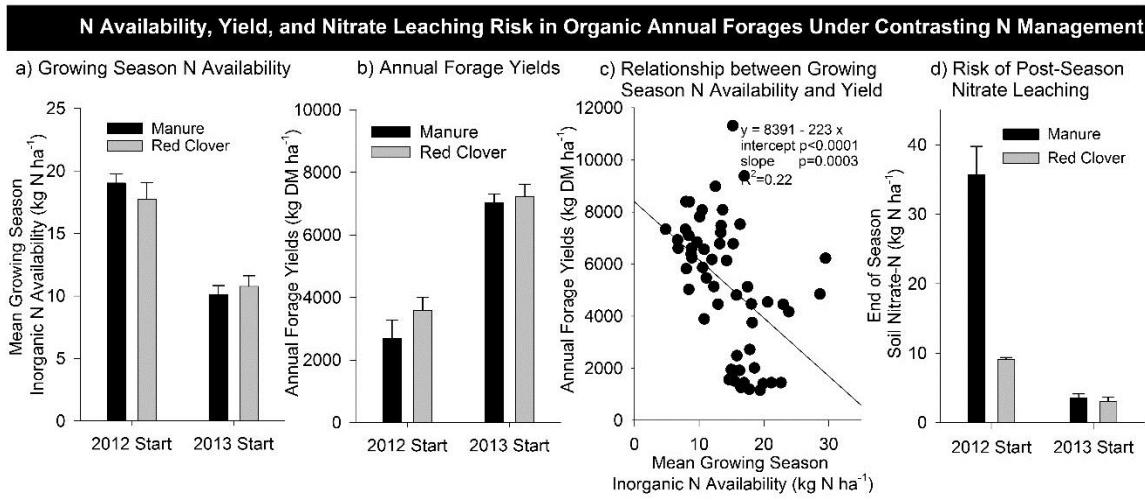
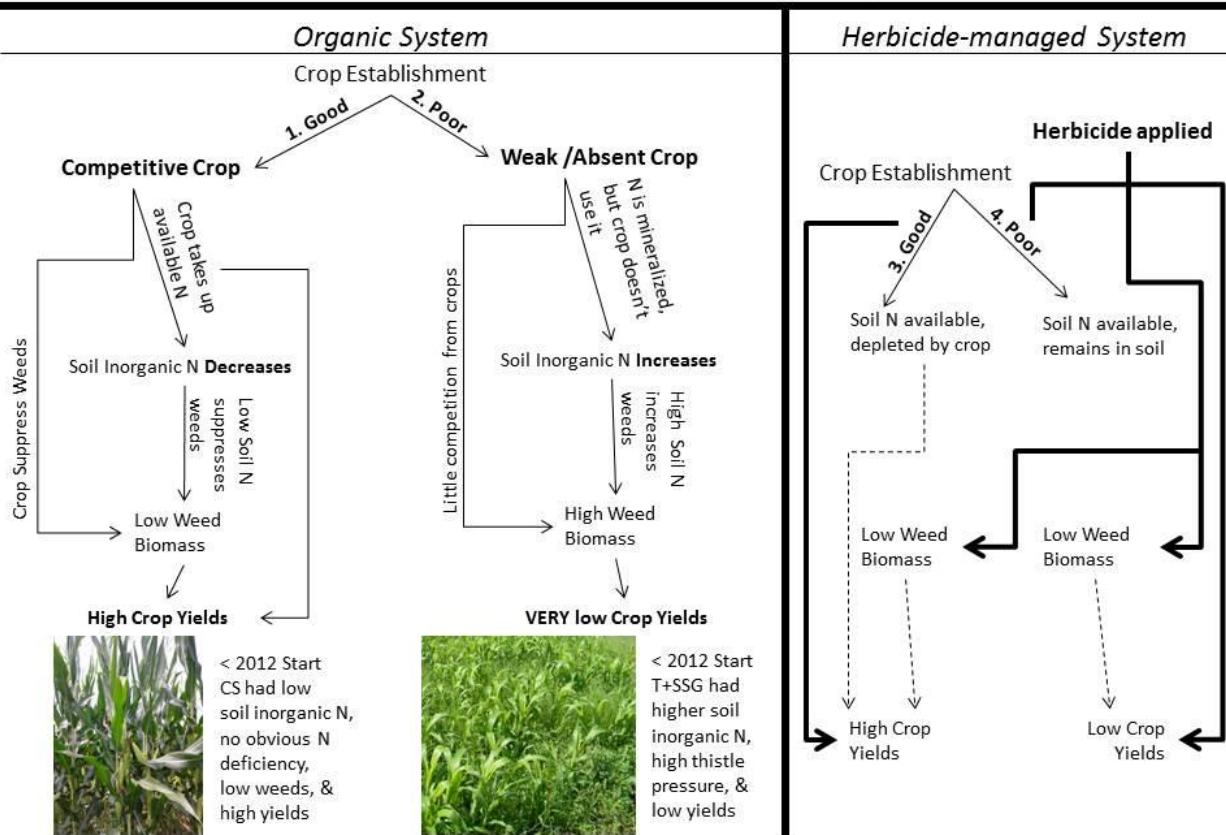

Figure 1. Forage Phase N Availability and Yields
Figure 2. Nitrogen availability-yield relationships are moderated by other factors in organic systems
Yield lags in organic systems are frequently attributed to low soil inorganic nitrogen (N) availability. Within a 2-year organic forage systems trial conducted on 2 sites that had been under long-term organic management, we compared two alternative N provisioning strategies, legume-based and manure based. We monitored crop yields and soil inorganic nitrogen availability throughout forage and silage phases of 3 manure-based annual systems and 4 red clover (RC, *Trifolium pratense* L.)-based annual systems. Annual systems consisted of annual forage followed by corn silage (CS, *Zea mays* L.), whereas a perennial forage system remained in orchardgrass (OG, *Dactylis glomerata* L.)-RC throughout the experiment, and served as a reference control. Annual forage yields were inversely correlated with soil inorganic N availability, and, from a groundwater quality perspective, manure-based N management resulted in concerning quantities of end-of-season soil nitrate (Figure 1). The relationship between early season nitrate availability and yields was also weaker than typically reported for conventionally managed systems and suggested lower levels might be more appropriate for both manure- and legume-based systems with a long history of organic management. Across both phases, these results imply low soil test inorganic N may not be yield-limiting, and even that higher soil inorganic N can depress yields under certain circumstances (Figure 2). Our results contradict the oft-cited notion that organic crop yields are limited by soil inorganic N and suggest that high soil inorganic N can depress crop yields as a result of indirect effects from increased weed competitive ability.